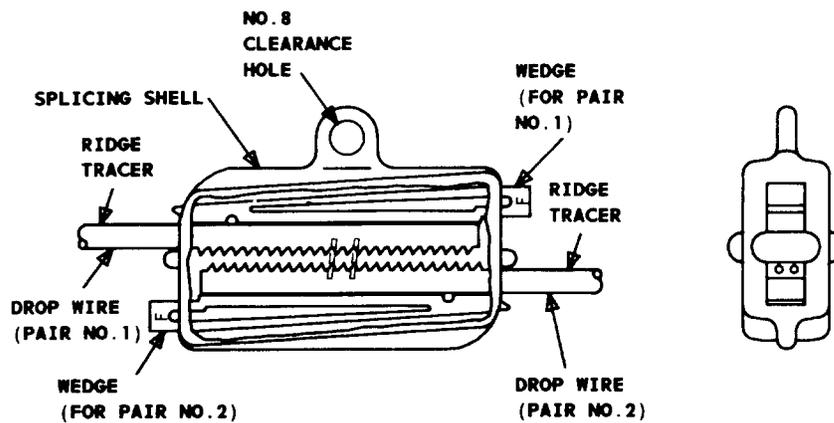

Fig. 2—B Drop Wire Splice—Cutaway
**3.02** The B drop wire splice is equipped with a No. 8 clearance hole (Fig. 2) which permits fastening to a pole or structure in nontension applications.
**3.03** The plastic splicing shell (Fig. 2) has a serrated center partition with integrally molded terminals which provide the electrical connections.